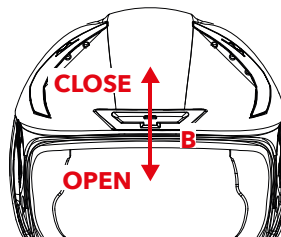

FIGURE 5
FRONT AIR INTAKE – **B** – Figure 5
- Figure 5: Slide up the central cursor to close the air intake, slide down to open it